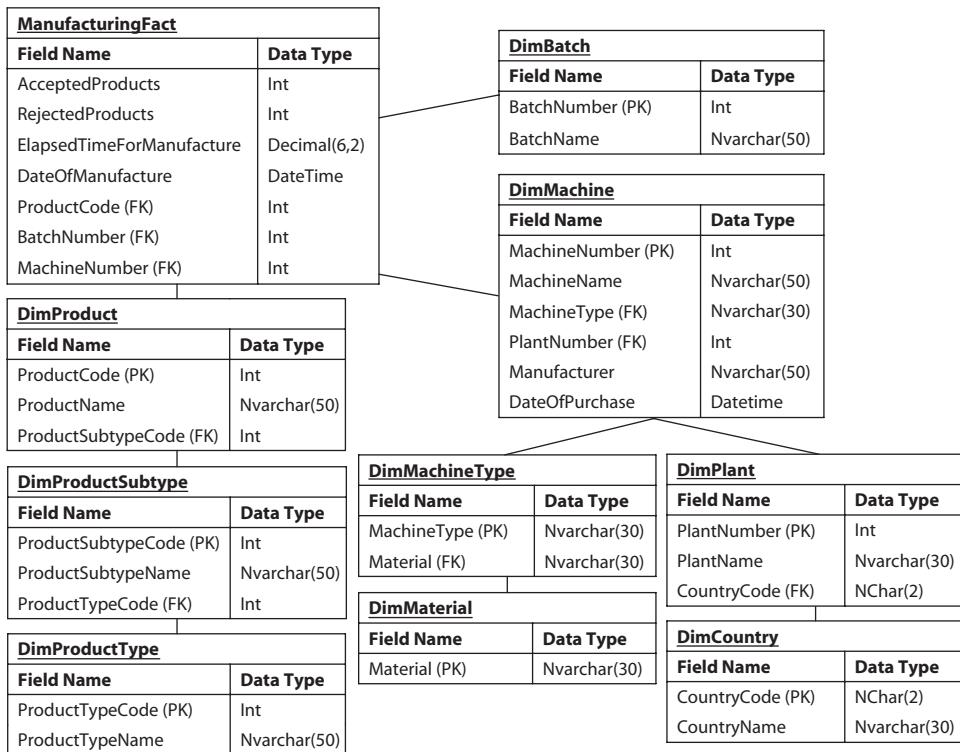
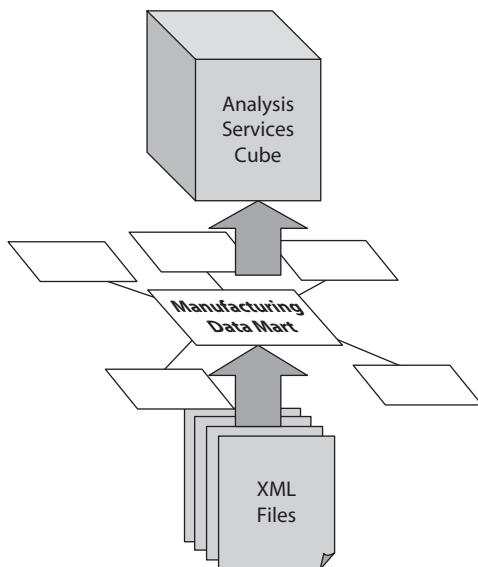

Figure 6-17 The completed Manufacturing data mart schema
Figure 6-18 Building the relational data mart
16. Link the lowest-level dimensions to the fact table by adding foreign keys to the fact table. Also, add the attributes to the dimension tables. The final Manufacturing data mart schema is shown in Figure 6-17. This may be a pretty funny looking snowflake, but it is, indeed, a snowflake schema.
Now that we have a design for our data mart based on the decision maker's requests and the data available from the OLTP systems, it is time to turn that design into database tables. We are going to build the relational data mart as shown in Figure 6-18. We use the schema in Figure 6-17 to create a database with a fact table and several dimension tables.
8. Begin by creating the DimProduct table from the schema (see Figure 6-17). In the Properties window, enter **DimProduct** for (Name) and **Product Dimension populated from the Manufacturing Automation System export file** for Description.
10. In the second row of the Table Designer tab, enter **ProductName** under Column Name, select nvarchar(50) under Data Type, and uncheck Allow Nulls. (Leave Length in the Column Properties window set to the default value of 50.)
15. In the second row of the Table Designer tab, enter **ProductSubtypeName** under Column Name, select nvarchar(50) under Data Type, and uncheck Allow Nulls. (Leave Length in the Column Properties window set to the default value of 50.)
18. Use the same process to create the DimProductType, DimBatch, DimMachine, DimMachineType, DimMaterial, DimPlant, and DimCountry dimension tables based on the schema in Figure 6-17. Be sure to uncheck Allow Nulls for all fields and to enter the appropriate data type along with the appropriate length in the Column Properties window. Also, create a primary key for each field that is followed by a (PK) in Figure 6-17.
21. Using the schema in Figure 6-17, create the entries for the seven columns in the ManufacturingFact table. When creating the ElapsedTimeForManufacture field definition, select decimal under Data Type, and then enter **6** for Precision and **2** for Scale. (Continue to uncheck Allow Nulls for all fields.)